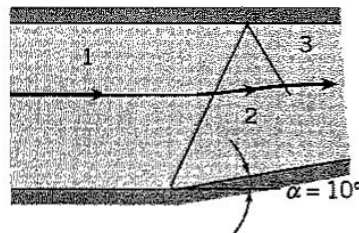

Figure P11.25
11.25 The shock in the previous problem “reflects” at the opposite wall, as shown in Figure P11.25. The condition on the second shock is that the flow is turned parallel to the wall, so that the flow deflection through the second shock must be 10° . Find: